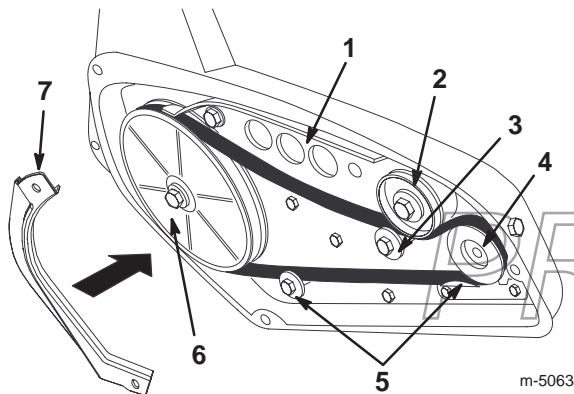

Figure 21
- Remove the old drive belt from the engine pulley and the idler pulley (Fig. 21).
- Push down on the idler pulley and remove the old drive belt from the rotor pulley (Fig. 21).
- Push down on the idler pulley and route a new drive belt around the rotor pulley (Fig. 21).
- Release the idler pulley and route the new drive belt over the 2 belt guides, around the engine pulley, and between the idler pulley and the roller (Fig. 21).
Important The drive belt must be on top of the roller and the 2 belt guides as shown in Figure 21.